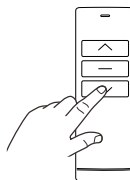

Fig. 18
3. **CLOSE / set lowest position** Hold down the **CLOSE button** (Fig. 18) until the desired lowest position is reached. Adjust the end position with the **OPEN / CLOSE** buttons.